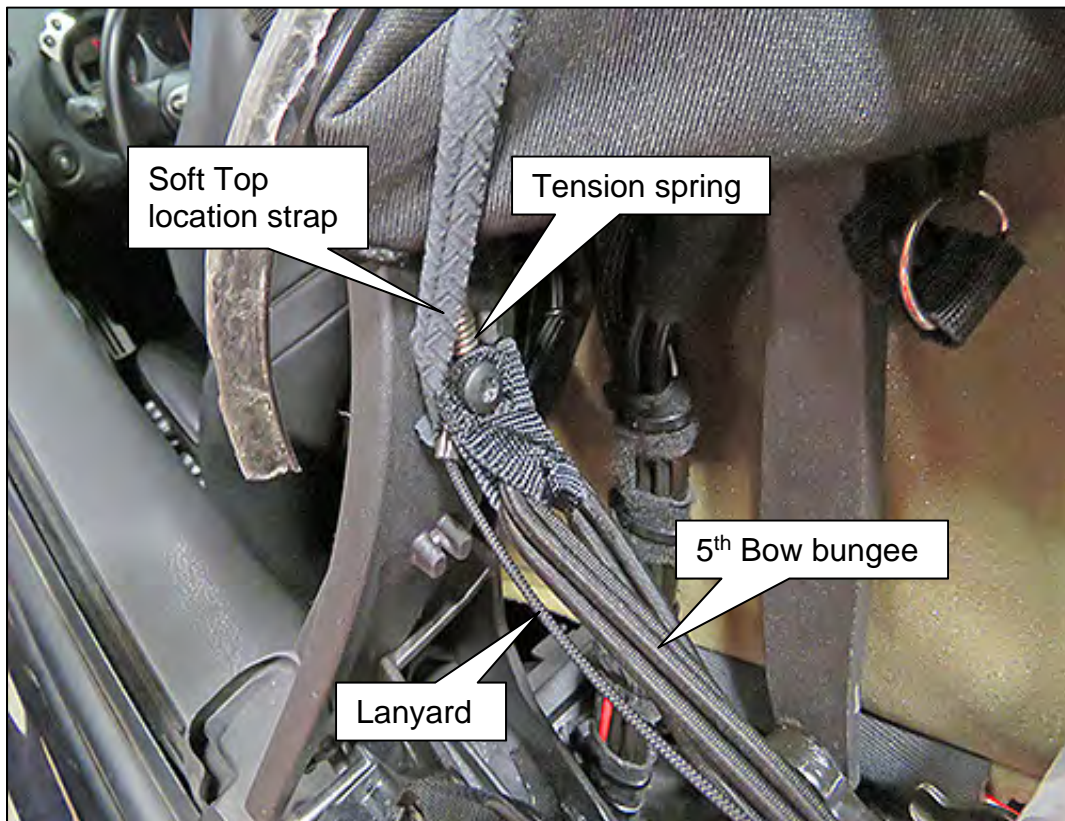

Figure 42
51. Attach the 5th Bow bungee, tension spring and lanyard eyelet, assembled in step 48 and step 49 on page 19, as shown in Figure 42.